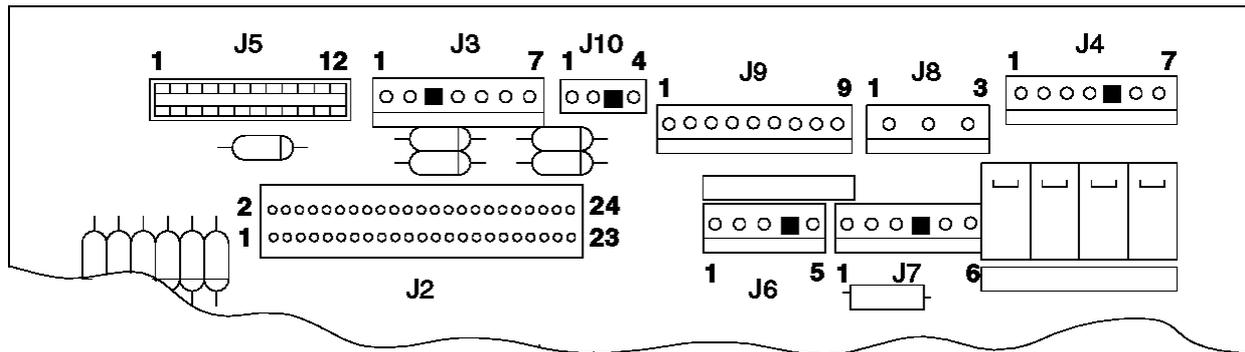
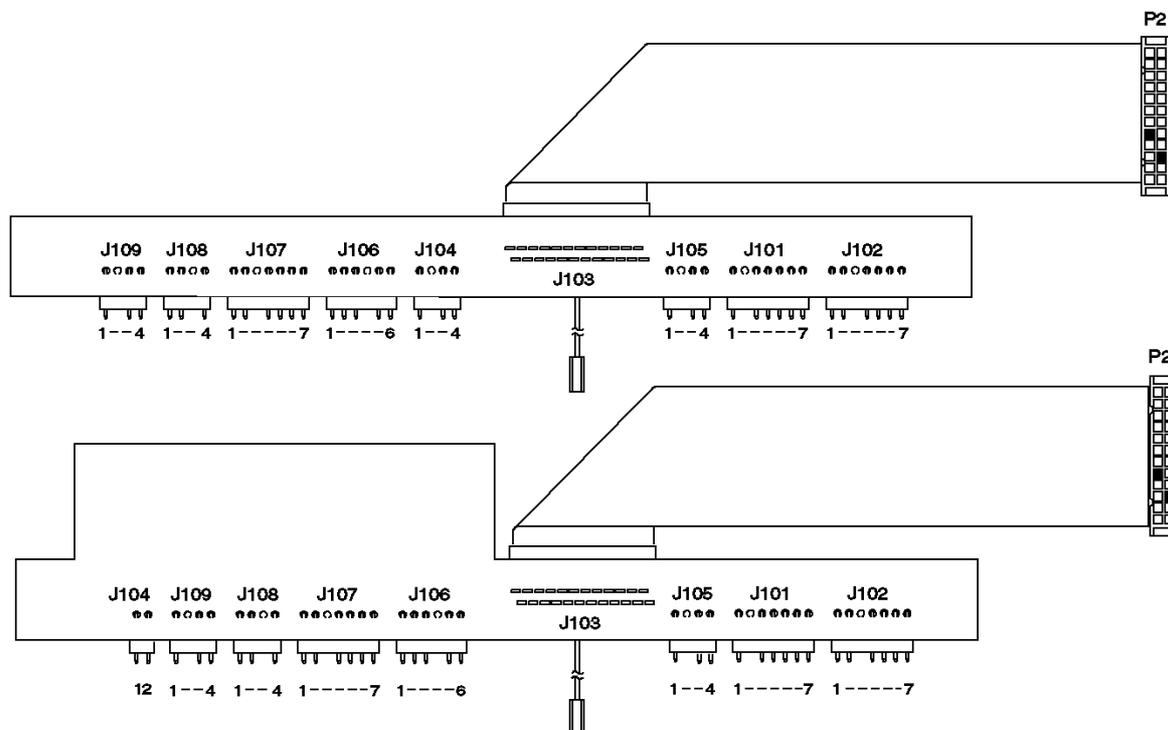

Figure 6-44. Printer Card
Figure 6-45. Extension Card
Use Figure 6-44 and Figure 6-45 as a guide when disconnecting and connecting cables. See Table 6-6 to determine where a printer component connects to the printer cards.
4. Disconnect the front button assembly cable from printer card connector J9. See Figure 6-44 in topic 6.37.2.1 for an illustration of the printer card.
5. Remove the two front button assembly screws (1).
1. Attach the front button assembly to the main cover using the two screws (1). Do not overtighten the screws.
2. Connect the front button assembly cable to printer card connector J9. See Figure 6-44 in topic 6.37.2.1 for an illustration of the printer card.